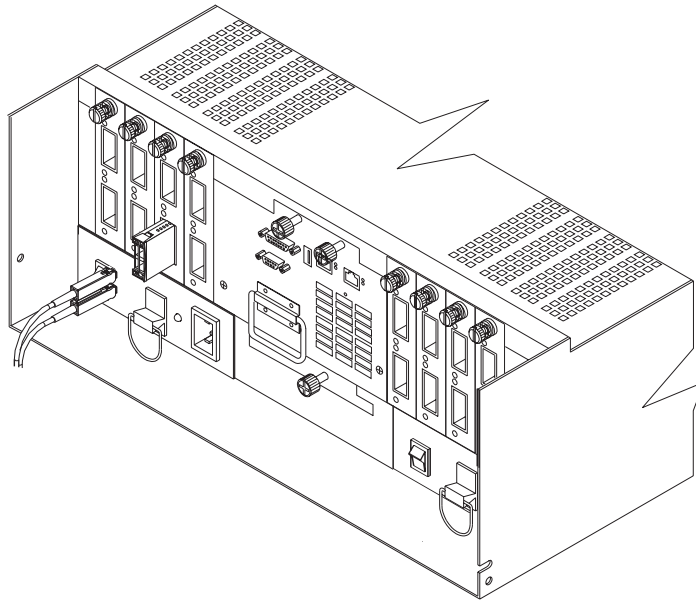

Figure 31. Installing a FASiT500 GBIC
1. Insert a GBIC into the mini-hub port located on the back of a FASTT500, as shown in Figure 31 on page 32. <<Note to reviewers: this graphic is being revised>>